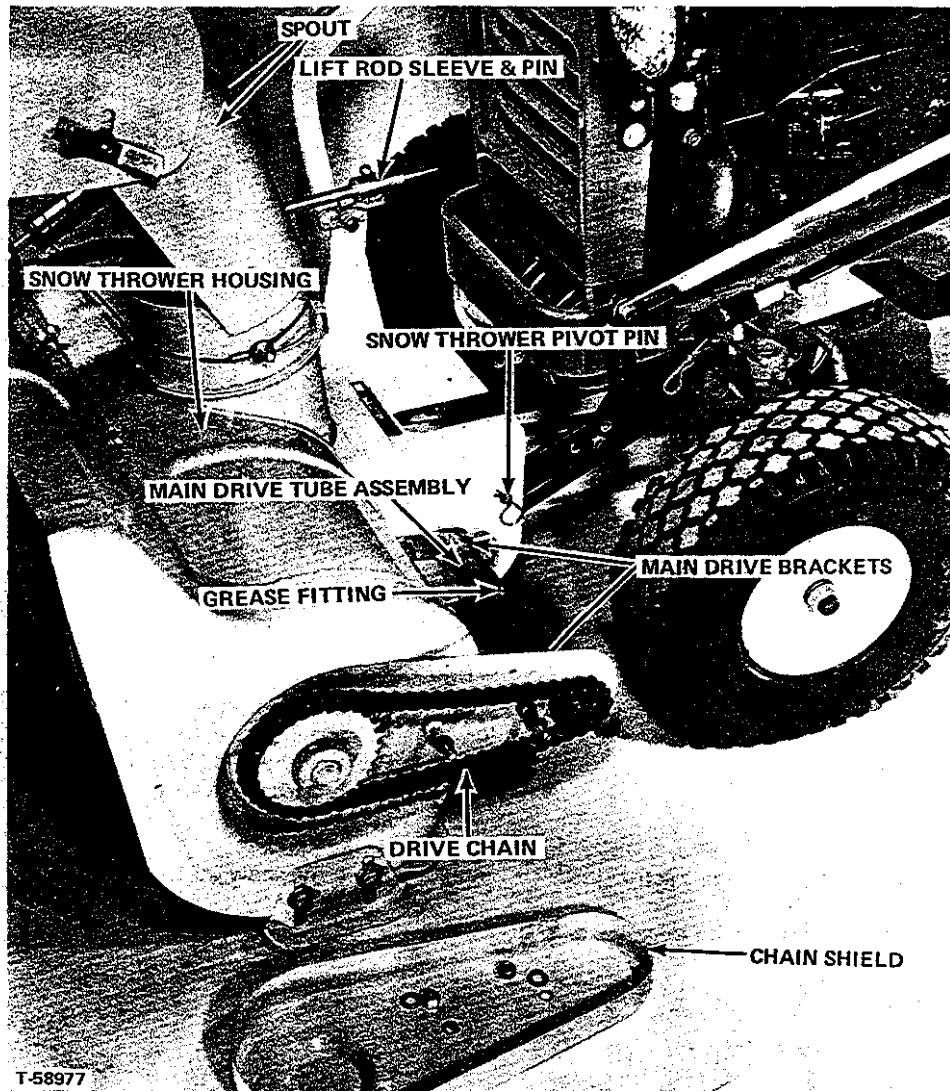

FIGURE 6
1. Lubricate the grease fitting on the main drive tube assembly, (Figure 6), with multi-purpose pressure gun grease.
2. Remove the two nuts that hold the chain shield to the left hand side of snow thrower. Remove the shield and coat drive chain with multi-purpose automotive grease. Replace the shield (Figure 6).
1. Remove chain shield on left hand side of snow thrower and inspect chain for wear and replace it if badly worn - (Figure 6).